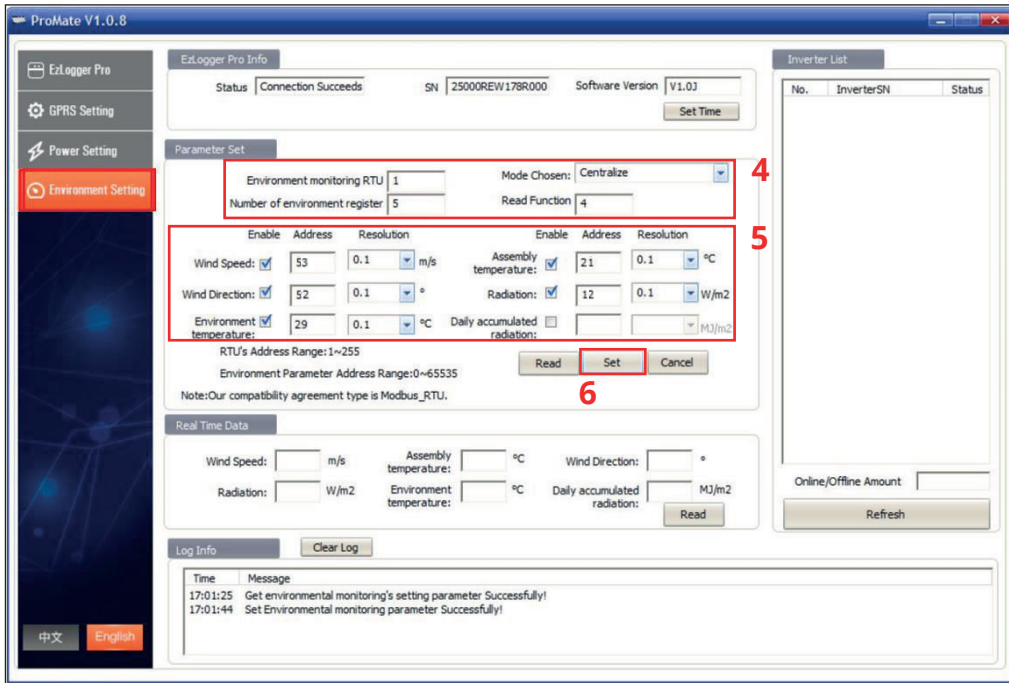

Figure 4: Seven Sensor Box Configuration Settings
**Step 5 :** According to the Sensor Box register map as shown in Figure 4, enter the register addresses and select the resolution of the selected data.